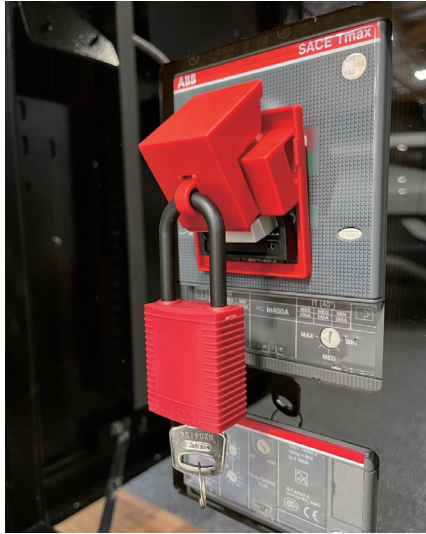

Figure 24. Breaker Unlock
1) Locate the breaker lock. See Figure 24.